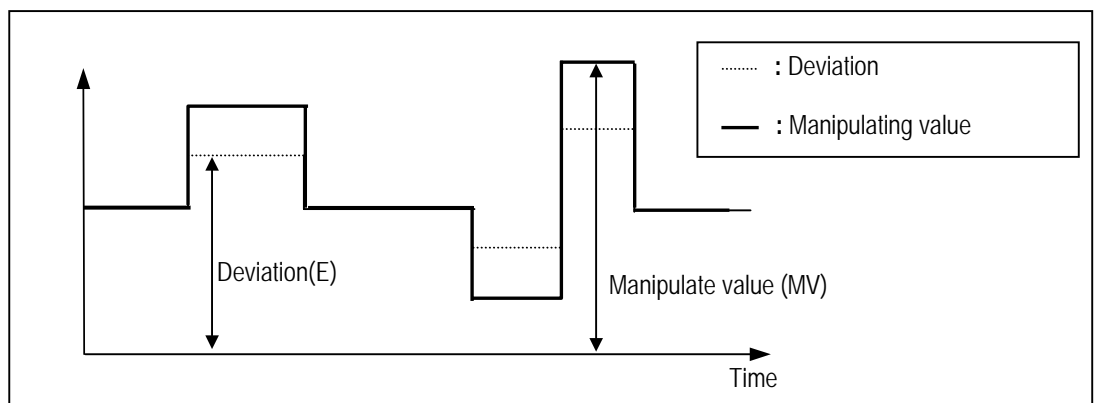

Fig 7.1 MV by P operation
- ③ When E happens, MV by P operation is like Fig.7.1